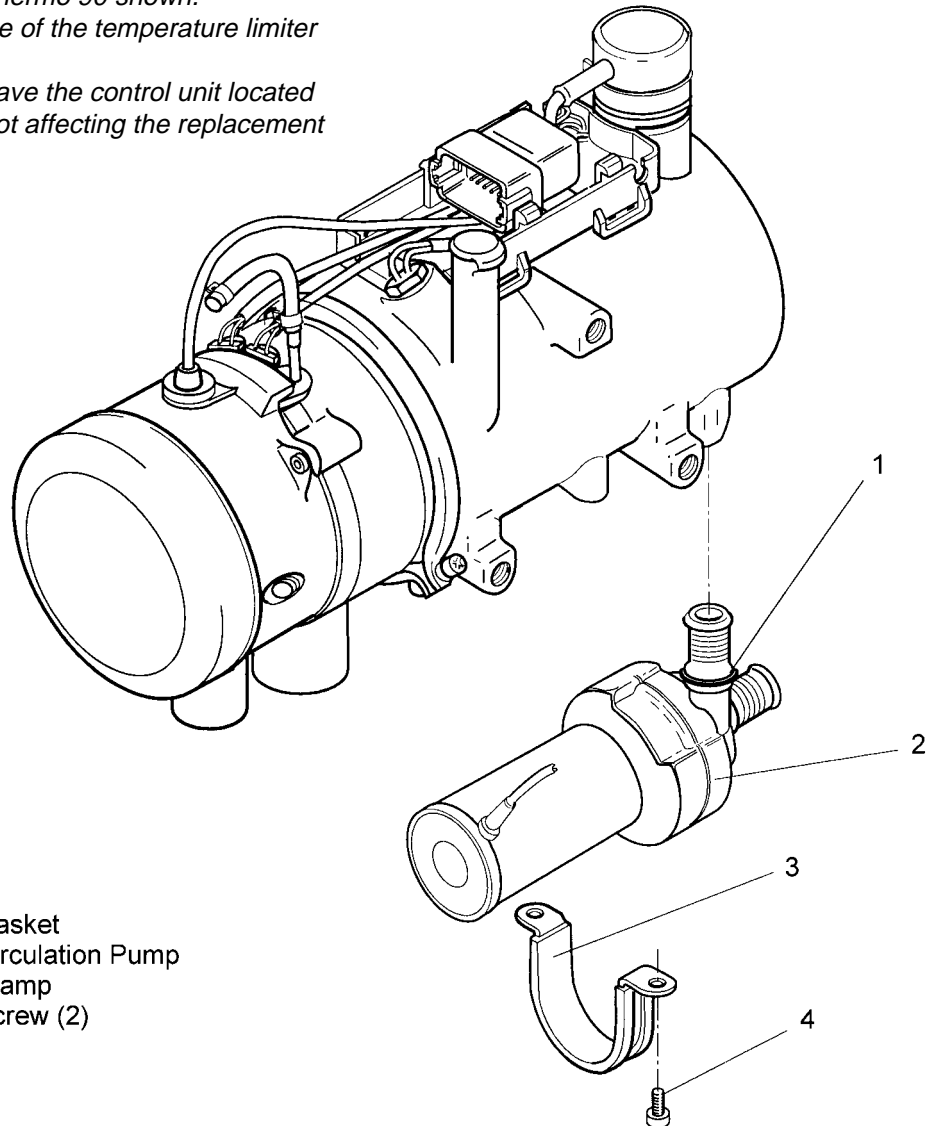

Fig. 9-2 Replacement of Circulation Pump
3. Remove screws (4, Fig. 9-2).
4. Remove clamp (3) and circulation pump (2).
1. Apply acid free grease (Vaseline) to gasket (1, Fig. 9-2)
2. Bring circulation pump (2) in assembly position and secure using clamp (3) and screws (4).
3. Torque screws (4) to 3 Nm + 10%.